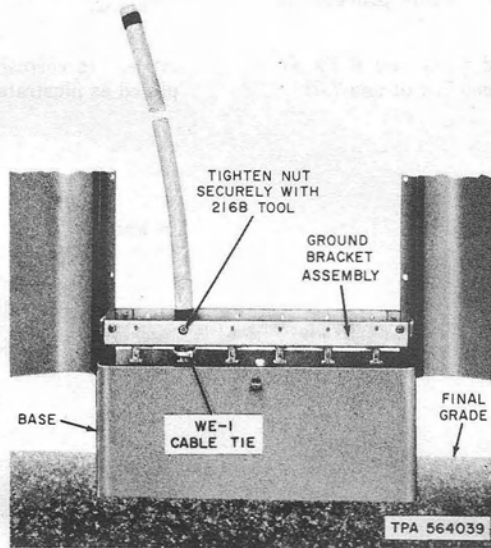

Fig. 30—Cable Installed in Closure
the cable to the ground bracket assembly with a WE-1 Cable Tie. Fig. 30 illustrates the cable installed in the closure.
2. FIG. 30 ILLUSTRATES THE CABLE INSTALLED IN CLOSURE.